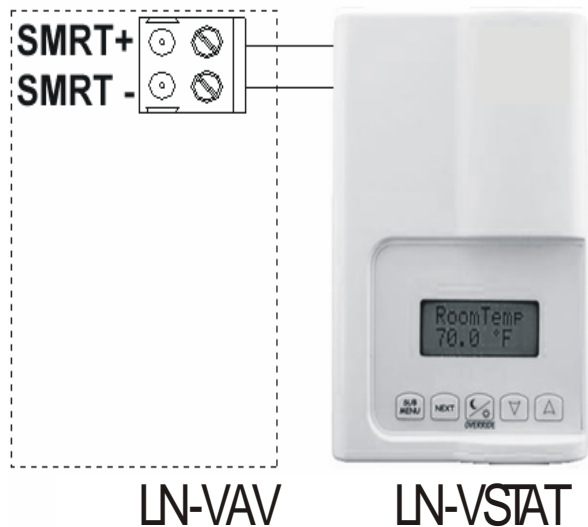

Figure 6: LN-VSTAT and LN-PSTAT Sensors - Wired to Controller
3. Connect the SMRT+ and SMRT- output terminals of the LN-VSTAT to the SMRT+ and SMRT- input terminals on the LN-VAV/VVT controller (Figure 6).